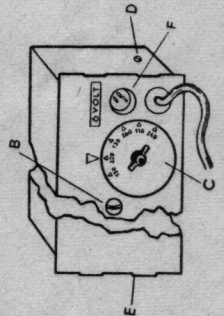

Fig. 3
3. For readjustment turn voltage selector "C" see fig. 3. The mains converter will work at the voltages shown on the selector dial and at frequencies of 50-60 c/s.